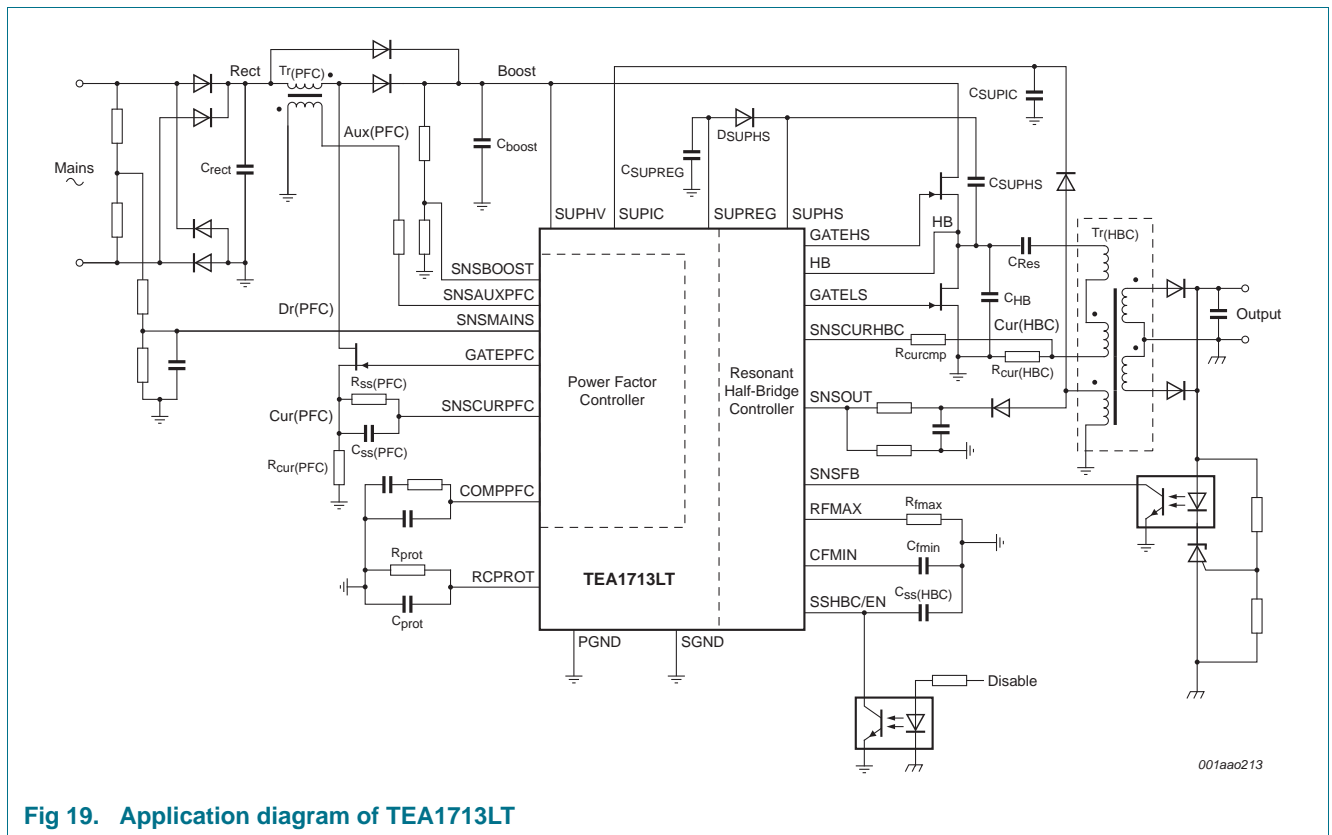

Fig 19. Application diagram of TEA1713LT
- [3] For a typical application with a compensation network on pin COMPPFC, like the example in Figure 19.